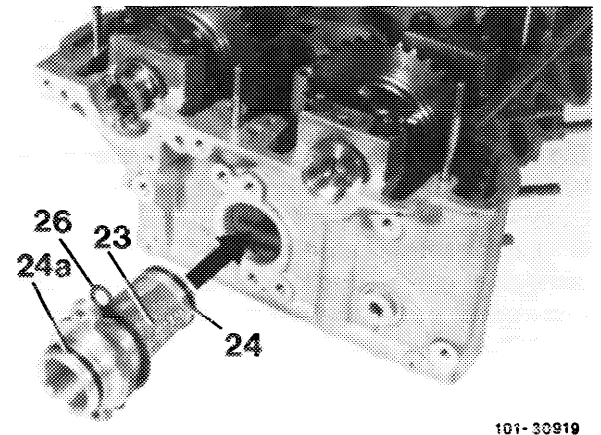

Fig. 01/13
A threaded connection for coolant to the heater core (47) and one for the crankcase ventilation heating (81) are screwed into the cylinder head left rear corner (Fig. 01/11).